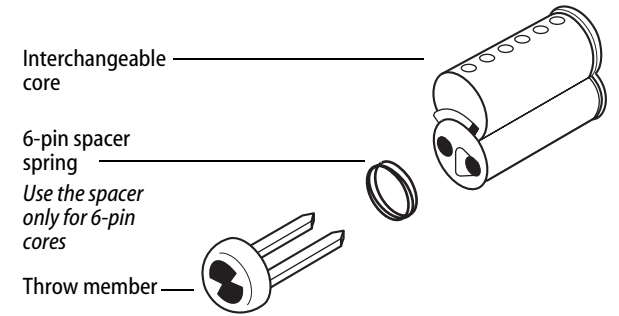

Figure 11 Assembling the interchangeable core and throw member
- 1 Insert the throw member into the back of the core. See Figure 11.